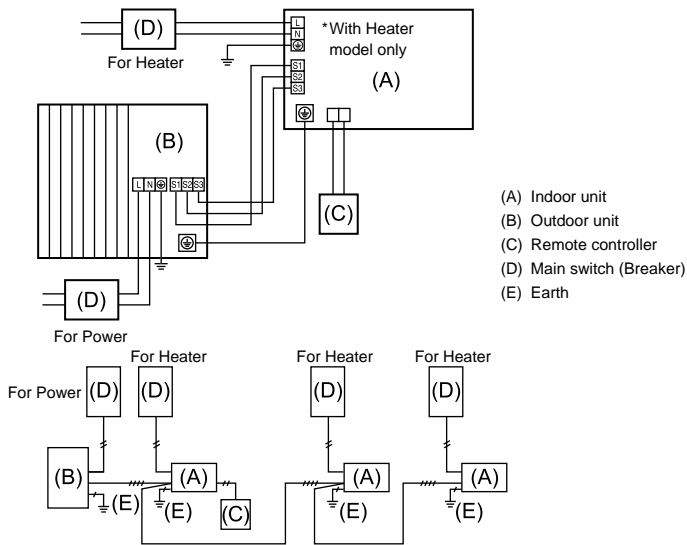
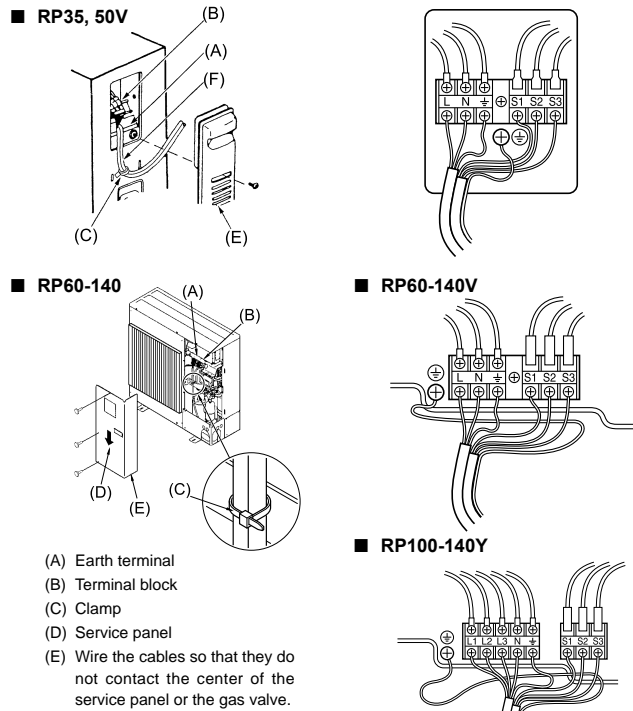

Fig. 6-1
Fig. 6-2
6.1. Outdoor unit (Fig. 6-1, Fig. 6-2)
- (1) Remove the service panel.
- (2) Wire the cables referring to the Fig. 6-1 and the Fig. 6-2.